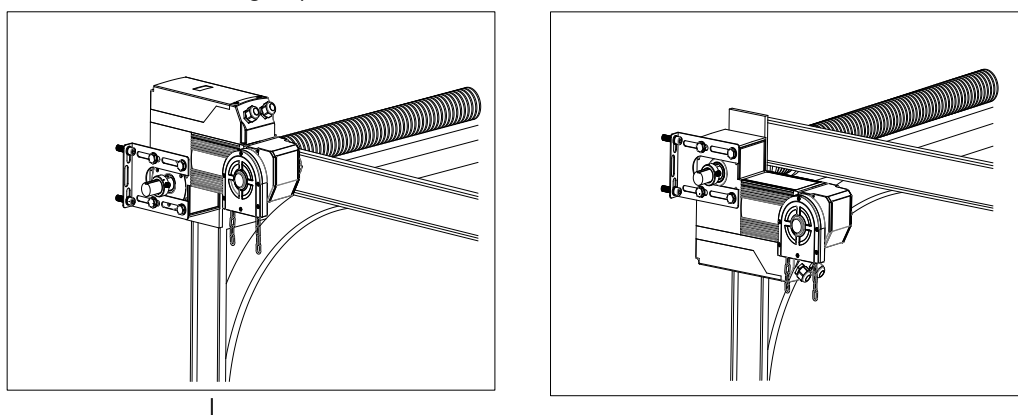

Fig.8
Fix the door operator as shown in fig.8, Before installing, make sure that the space available above the door are suitable, it is recommended that you should better install the operator as shown in fig.8 (I)